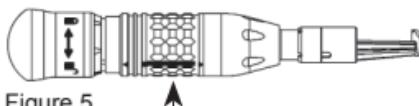

Figure 5
1. Hold handpiece firmly in one hand and with other hand push and rotate release sleeve of attachment until arrow is aligned with unlock symbol (Figure 5).